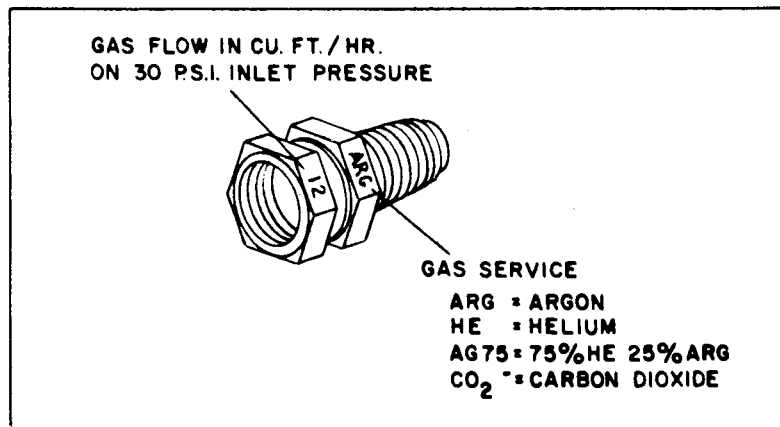

Figure 3. Flow Adapter Markings
- b. Select the flow adapter best suited for your specific needs from Table II. It is recommended that a series of adapters be kept on hand so that all job requirements can be met. Flow adapter markings are shown in Figure 3.